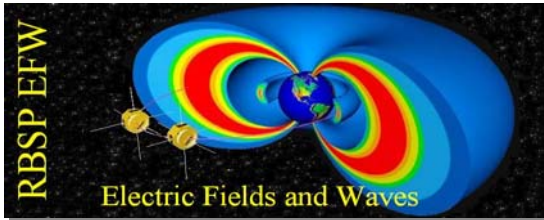

Figure 5 – BEB DAC timing
**DAC Control:** 4 lines to control the BEB AD5544 Quad DACs. The BEB\_DAC\_CLK frequency is 1.048 MHz ( $20^{20}$ Hz) and is active only on during the transmission of DAC settings. The DACs are serially ganged together. The data is clocked in on the BEB board on the falling edge of BEB\_DAC\_CLK, polarity as measured on the backplane. The command to the DAC has a 2 bit address followed by 16 bits of data (MSB first). The DACs are serially connected together requiring careful sequencing of the commands in order to ensure correct programming. Data is latched into the DAC registers using the CS pin. Data is latched into the registers on the falling edge of the CS pin as measured on the backplane. Once all the DACs have been loaded consecutively the BEB\_DAC\_LDAC line is pulsed high. The DACs update on the falling edge of this pulse, polarity as measured on the backplane. Further details can be found in the BEB specification (RBSP\_EFW\_BEB\_001); the interface is shown in figure 5 below.